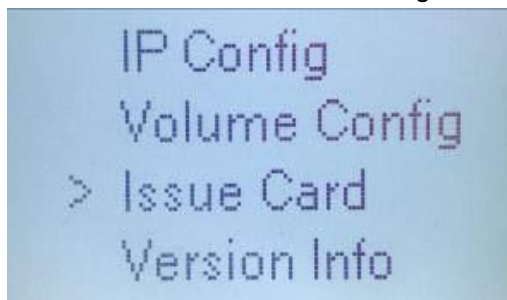

Figure 4-9
- b) Refer to steps in chapter 4.1 to select Issue card. See Figure 4-9.